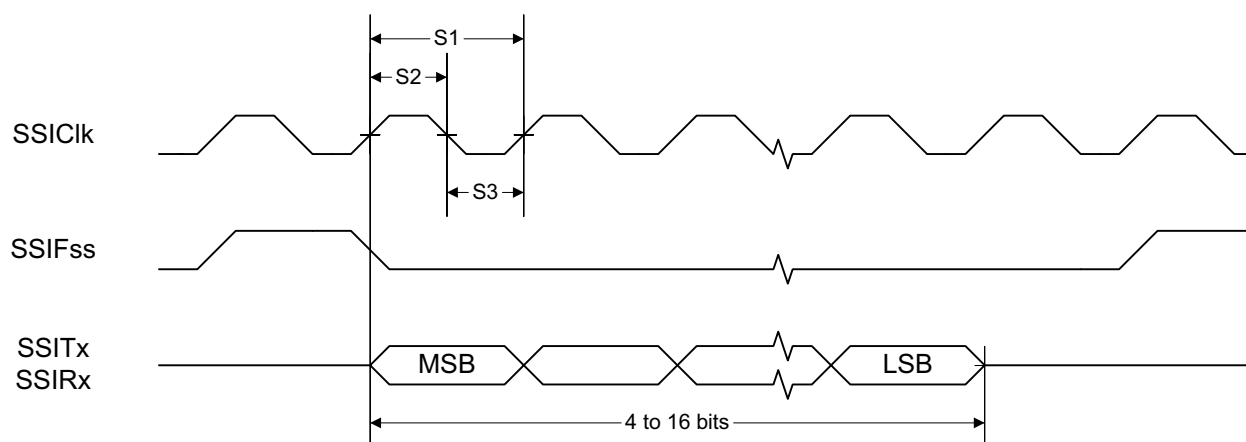
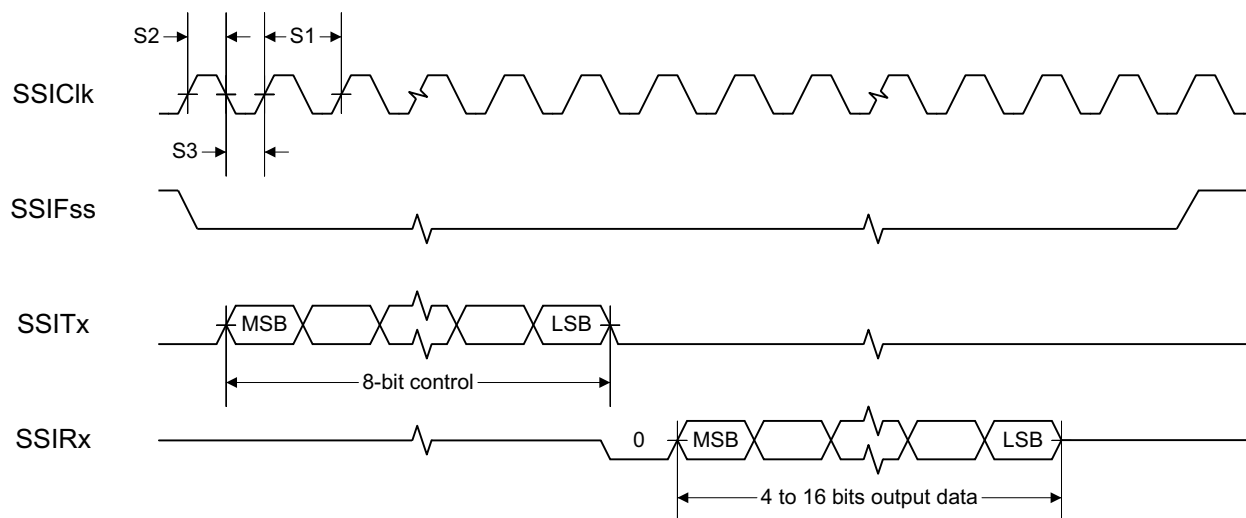
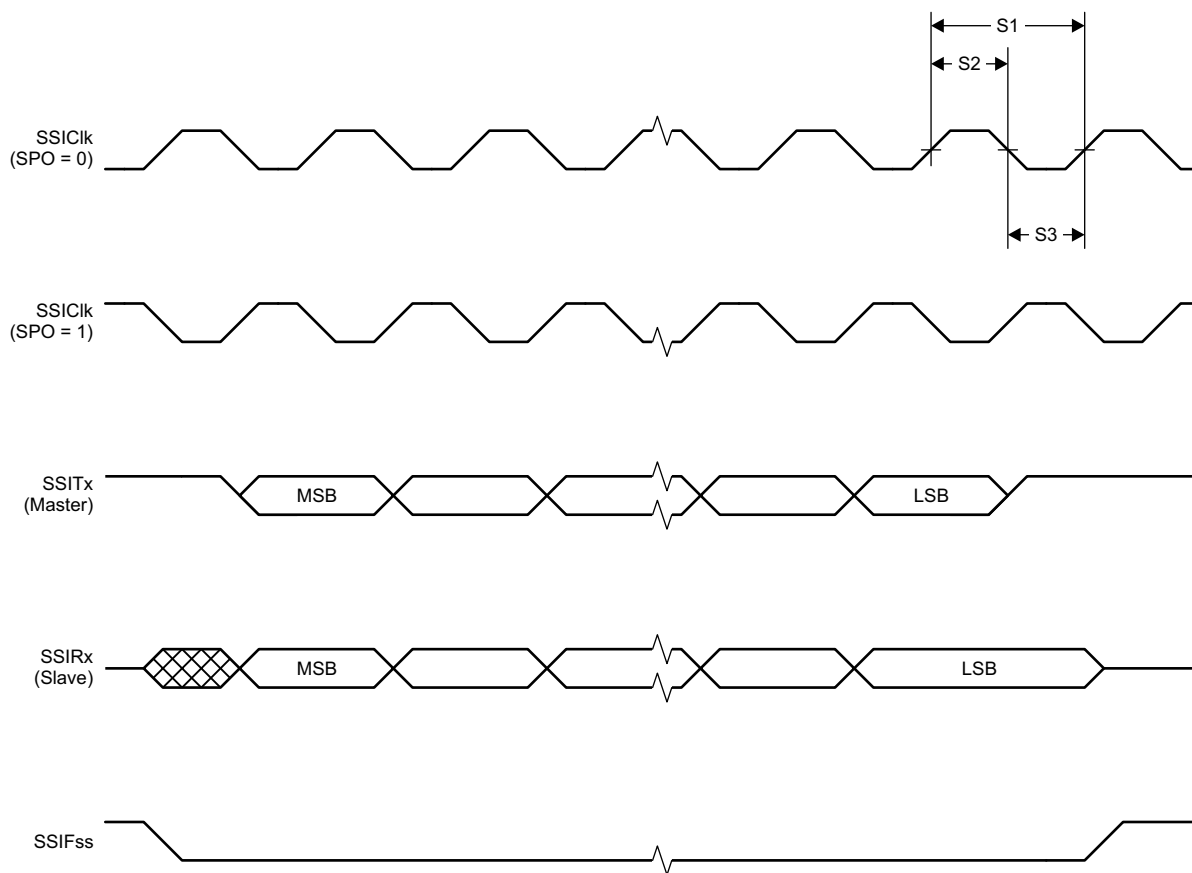

Figure 7-1. SSI Timing for TI Frame Format (FRF = 01), Single Transfer Timing Measurement
Figure 7-2. SSI Timing for MICROWIRE Frame Format (FRF = 10), Single Transfer
**Figure 7-3. SSI Timing for SPI Frame Format (FRF = 00), With SPH = 1**
(1) Refer to SSI timing diagrams Figure 7-1, Figure 7-2, and Figure 7-3.
(2) When using the TI-provided Power driver, the SSI system clock is always 48 MHz.